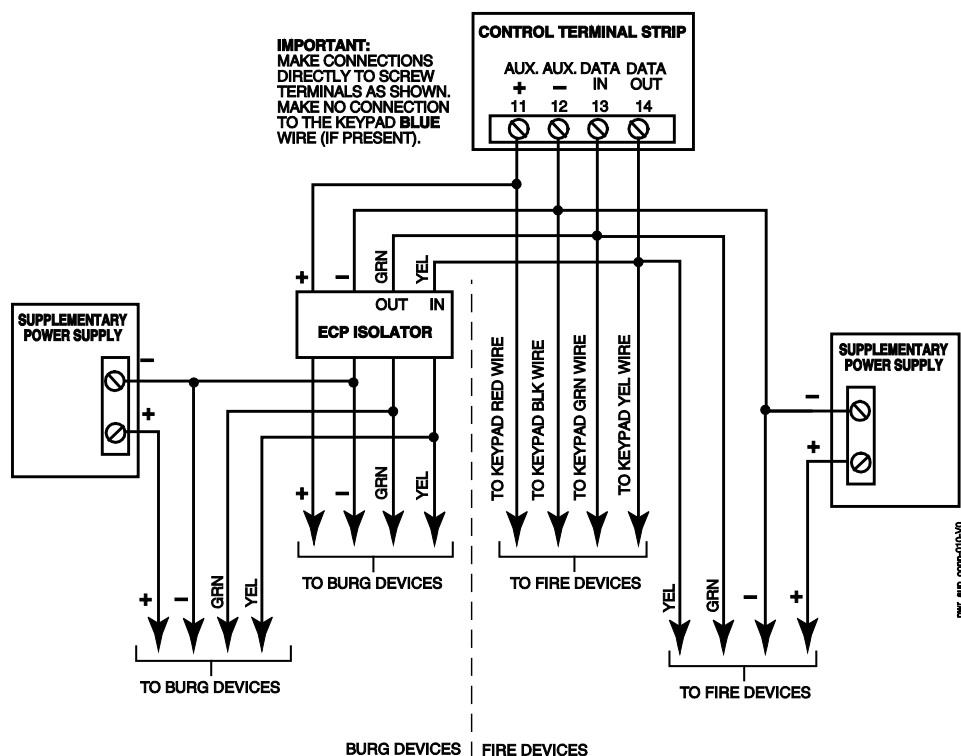

Figure 3-7. Using a Supplementary Power Supply
Connect the additional keypads as shown in *Figure 3-7*, using the keypad wire colors shown. Be sure to observe the current ratings for the power supply used.
- Make connections directly to the screw terminals as shown in *Figure 3-7*.